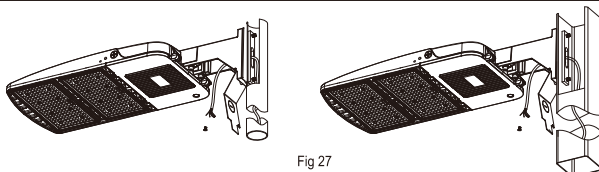

Fig 27
Step 4 . Insert the lamp into the Type C bracket, and then tighten the 2 bolts with a wrench, as shown in Fig. 27: